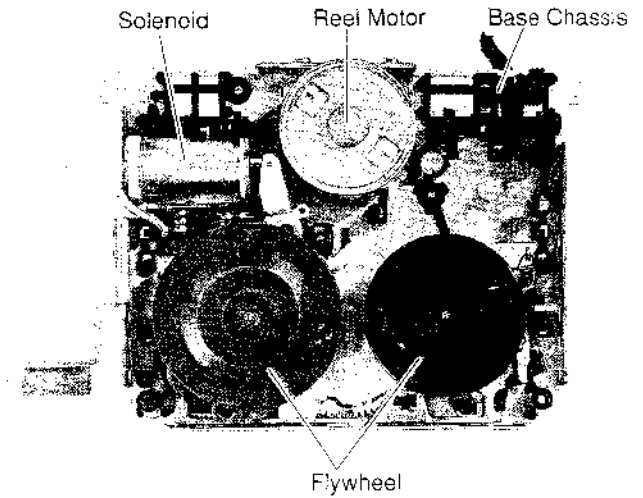

Figure 13
- (1) After removal of the Main Motor Bracket, remove two Flywheels by removing two Washers (A) as shown in Figures 13 and 14.